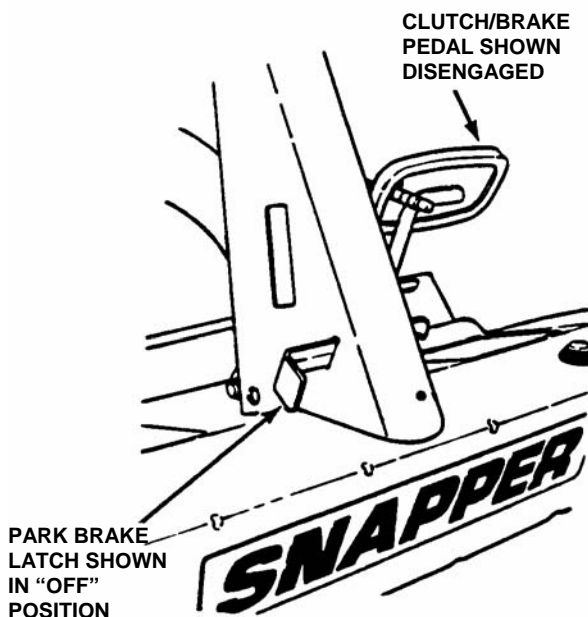

FIGURE 2.17
2. Release park brake by pushing down on the clutch/brake pedal, parking brake latch will move to the "OFF" position unassisted. See Figure 2.17.